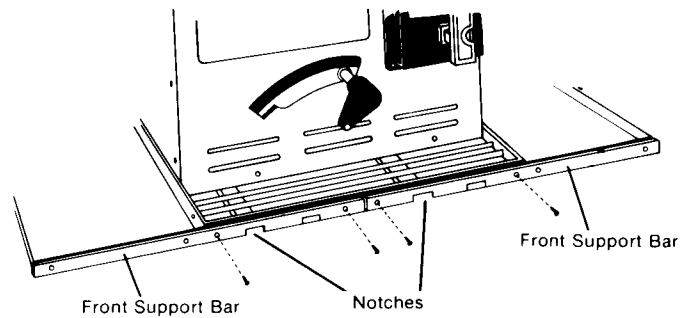

Figure 5
- D. Using two self-tapping screws, attach each of the Front Support Bars to the front half of the **table top only** as shown in **figure 5**. Make sure that: